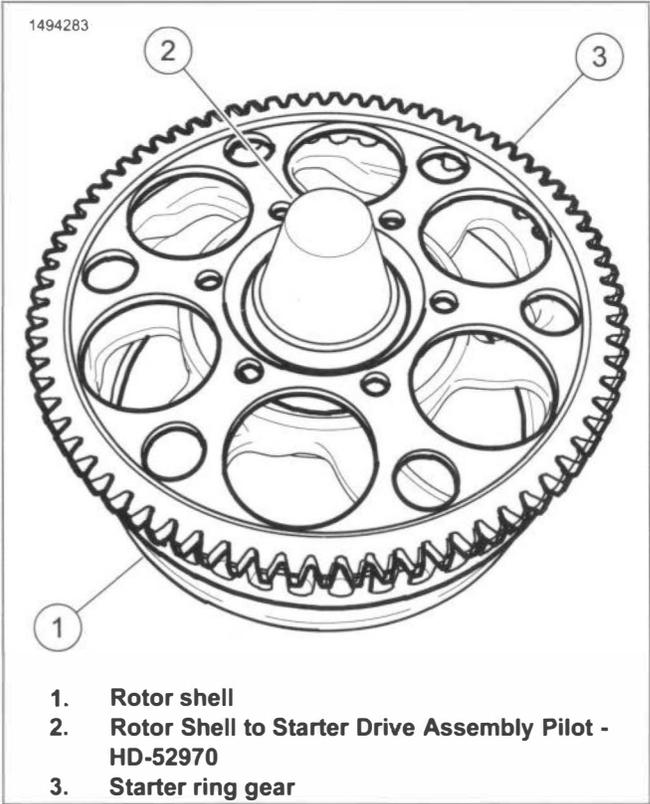

Figure 8-15. Installing Starter Ring Gear
- c. See Figure 8-15. Install starter ring gear (3) over assembly pilot (2).